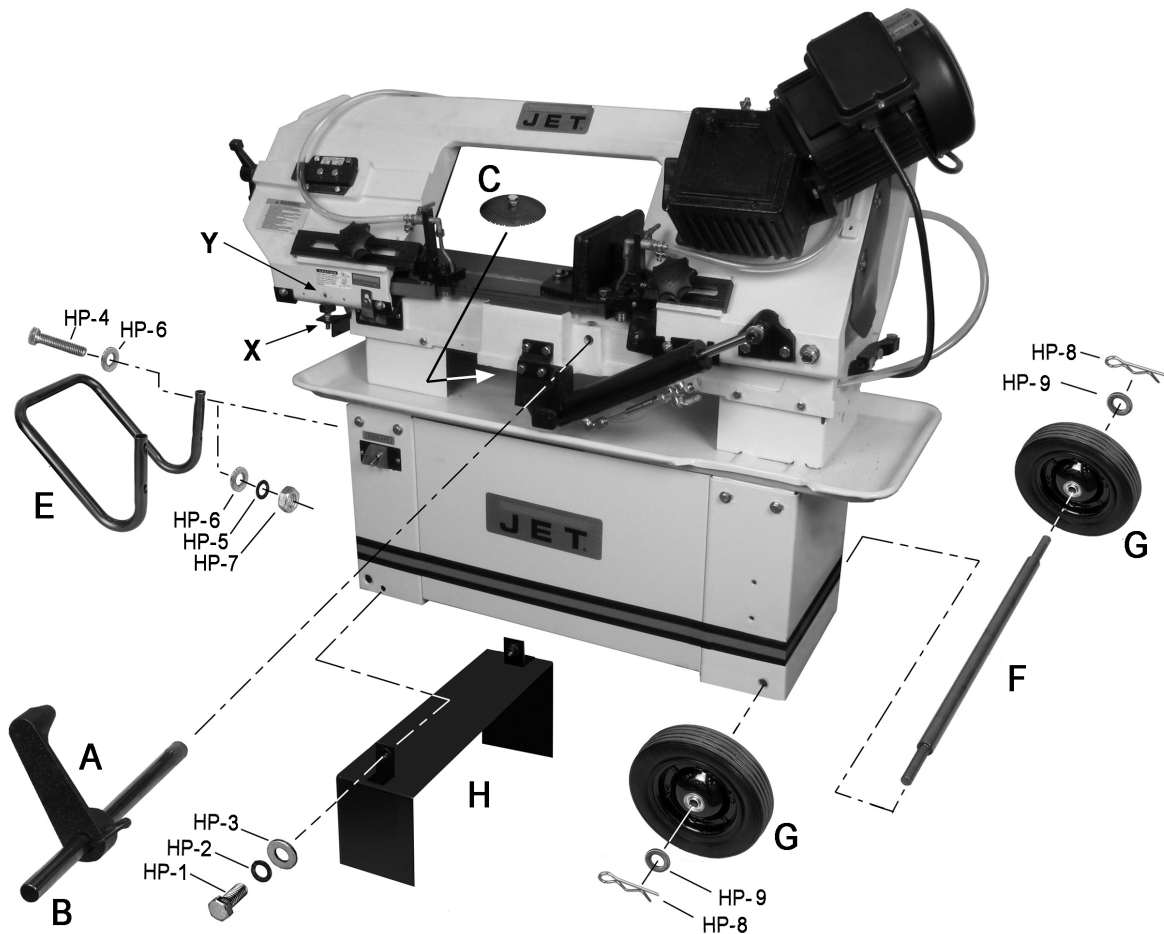

Figure 4
Refer to Figure 4.
3. Use blocking beneath saw, and install foot stand (H). Secure with four screws and washers (HP-1/2/3).
5. Slide workstop rod (B) into hole on saw base and slide workstop (A) onto rod. (NOTE: Do not insert rod too far so that it hits the vise leadscrew).
6. Install handle (E) and place filter screen (C) over coolant drain hole in pan.
7. Remove stop bolt (X, Figure 4) and remove shipping bracket (Y). Retain bracket in case you must transport the machine in the future. Reinstall stop bolt.